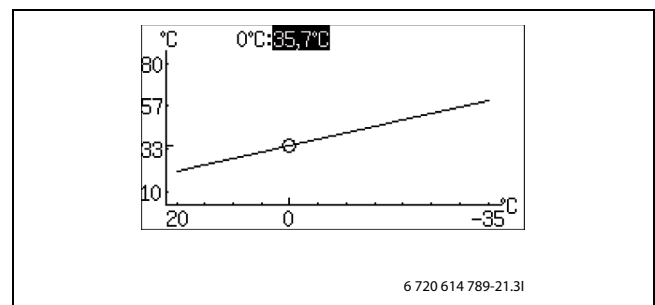

Fig. 48
- ▶ Turn the menu dial when the square is marked until 0 °C is marked (→ Fig. 48).